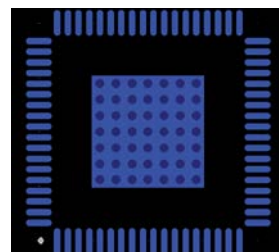

Figure 85. Exposed Pad Layout Example—Top View
- Place vias such that all layers of copper are connected, allowing for efficient heat and energy conductivity. For an example, see Figure 85, which shows 49 vias arranged in a 7 \times 7 grid in the pad area.